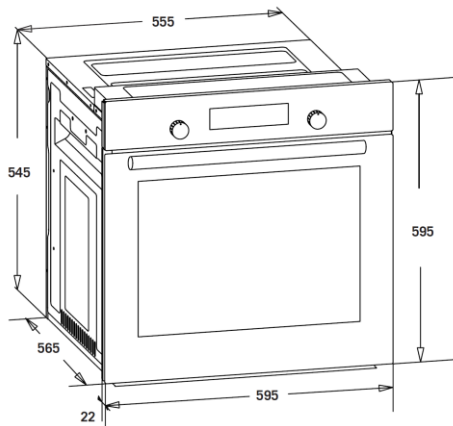

Fig. 3
- The dimensions of the oven are indicated in Figure 3.